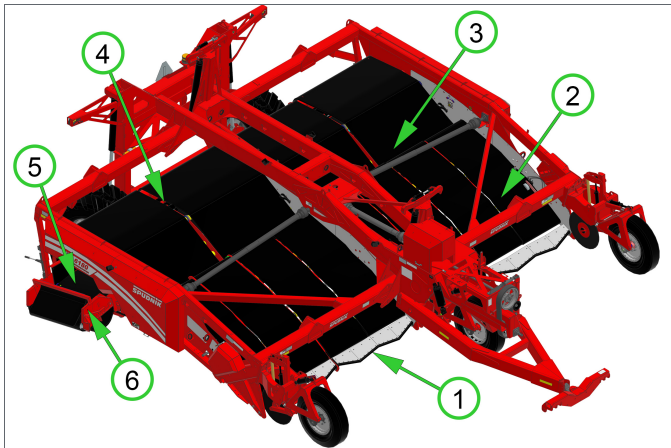

Figure 1
The basic components and physical layout of the windrower are designed to efficiently and consistently dig potatoes while minimizing product damage and waste. (see [\[Info\]](#) and Figure 1)
Legend for Figure 1: (1) Digger Nose, (2) Primary Chain, (3) Secondary Chain, (4) Vine Chain, (5) Rear Cross Chain, (6) Discharge.